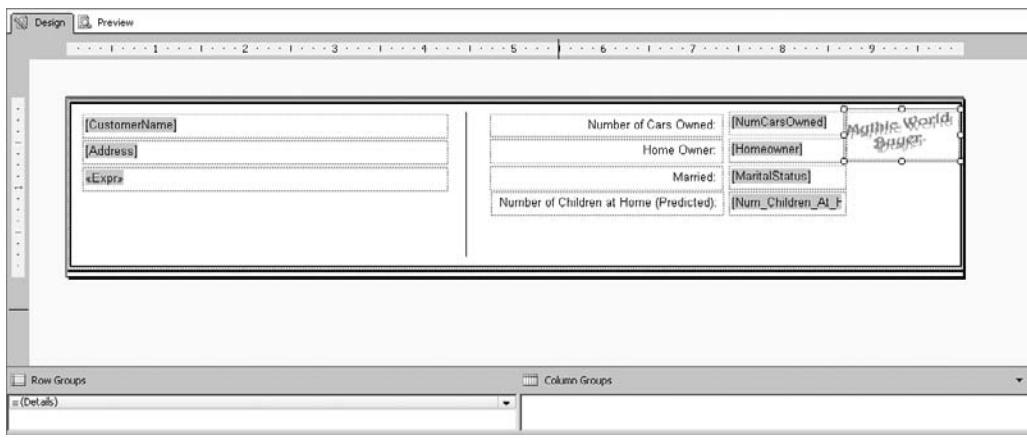

Figure 16-39 The Customer List With Prediction Report with the Mythic World Buyer image
56. Click OK to exit the Image Properties dialog box. You return to the report layout, which appears as shown in Figure 16-39.